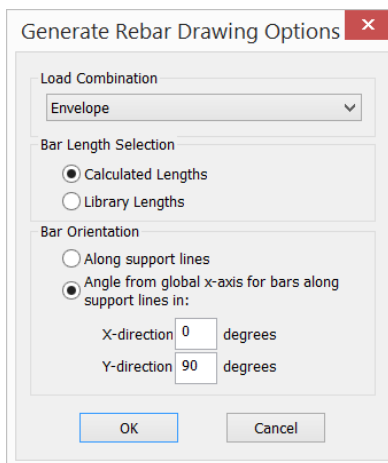

Figure 6.8-11 - Generate Rebar Drawing Options
- Once the design of sections is complete, use the menu item **Floor Design | Rebar | Calculated Rebar Plan**  to display the rebar required to meet demand for serviceability, strength or envelope. The dialog box as shown in **Figure 6.8-11** will be displayed.
- The user can select the any of the load combinations defined in the model to view rebar for. Note that when the ACI318 code is selected, no rebar will be generated for serviceability conditions as the code waives temperature and shrinkage reinforcement for soil supported slabs. You may choose the **Bar Length Selection** and the **Bar Orientation**, and then click **OK**. If the orientation of the bars is **Along support lines** the reinforcing is aligned parallel to the support lines even if they are not in the X-Y directions. The selection of an angle generates rebar layouts for those directions. The **Dynamic Rebar Module** calculates the required reinforcement for the direction selected. For this tutorial, specify **Library Length** and to have desirable rebar length and bar orientation along global X and Y axis as shown in **Figure 6.8-11**.